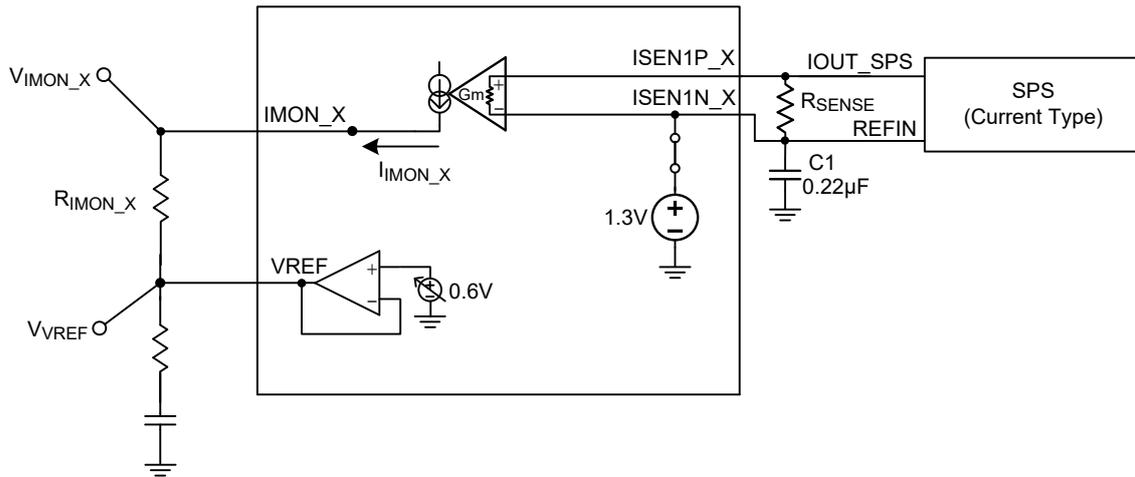

Figure 24. SPS Current Sense
0.22μF to 1μF is suggested to be connected between ISEN1N to GND. Figure 24 shows the implementation of SPS current sensing report. The V_{IMON_X} and current reporting from SPS can be calculated as: